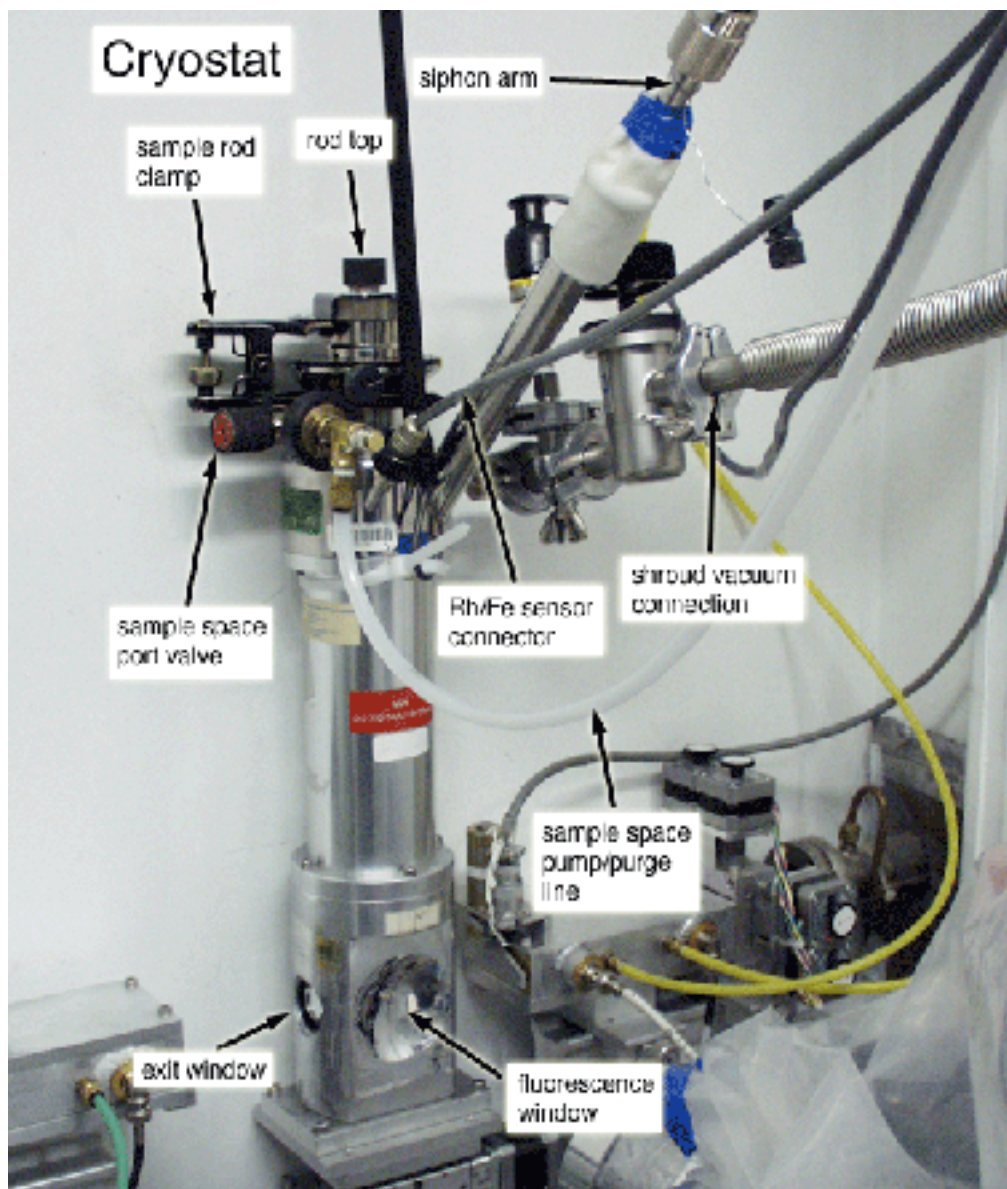
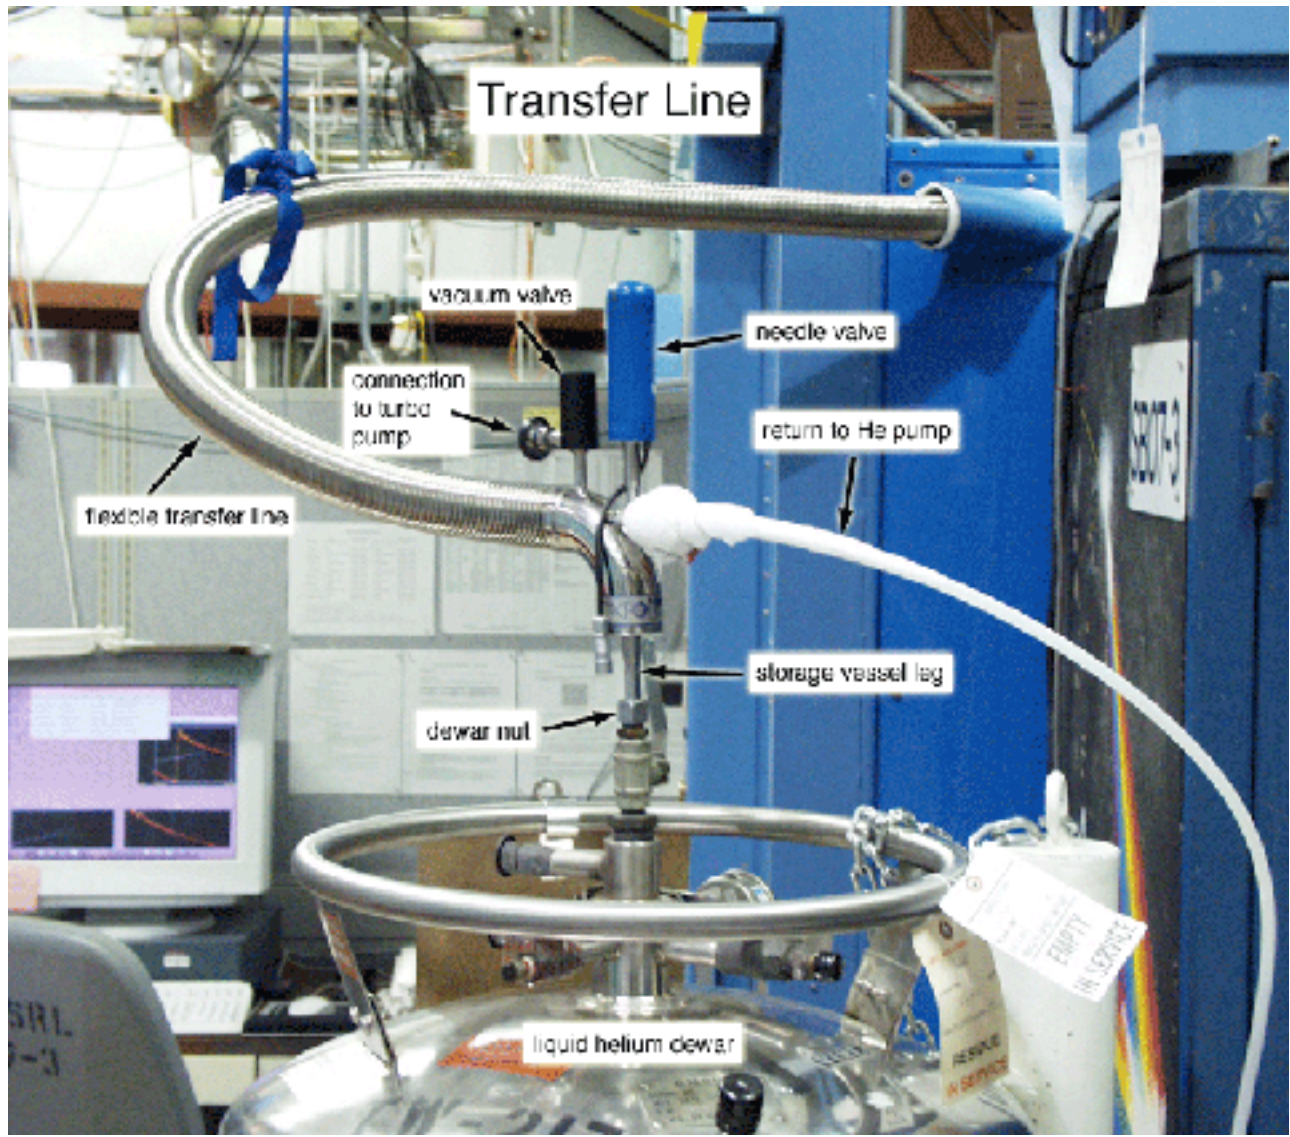
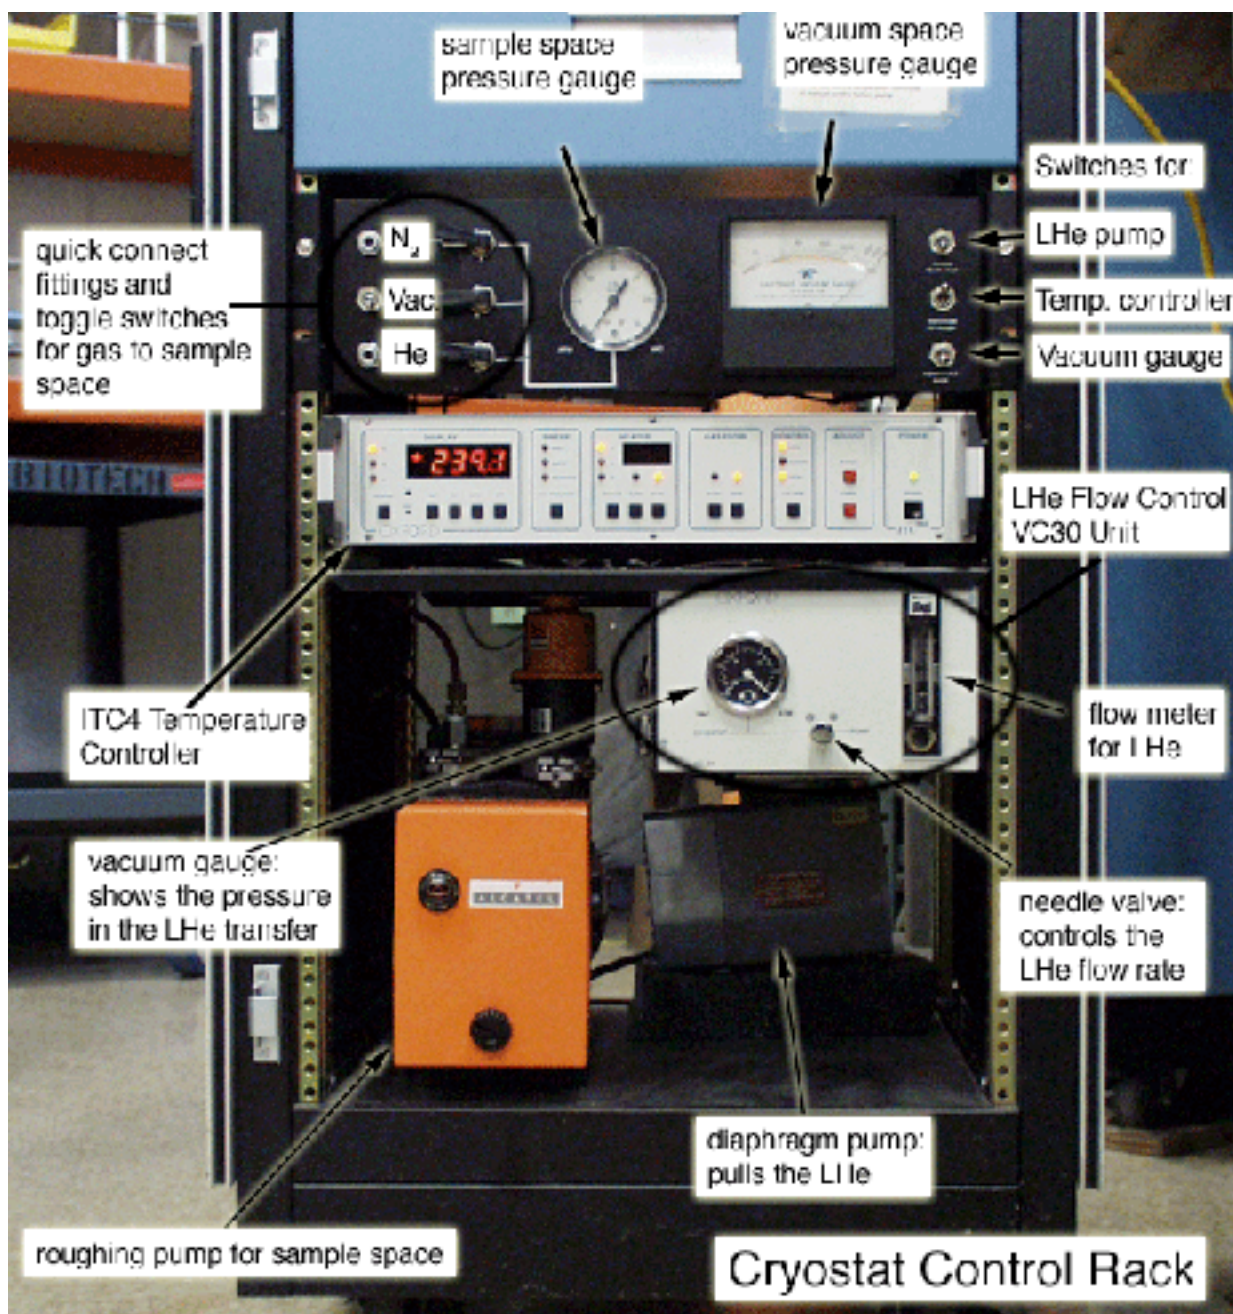

Figure 1: Cryostat
Figure 2: Transfer Line
Figure 3: Cryostat Control Rack
The cryostat consists of the following components: a cryostat body and sample probe (see Figure 1, Section 1.8); a LHe transfer arm (see Figure 2, Section 1.8); a LHe dewar (see Figure 4, section 10.2); a cabinet or rack containing a temperature controller (see Figure 3, section 1.8), a gas flow controller, a diaphragm pump, a rough pump, switches, valves and gauges; and a turbo pump system.
5. Attach the metal flex hose of the turbo pump to the cryostat shroud vacuum port (see Figure 1, Section 1.8).
- b. Attach the polyflo tube from the compression fitting on the outside of the cryostat rack or control panel labeled "To Sample Space" to the sample space port on the cryostat (see Figure 1, Section 1.8).